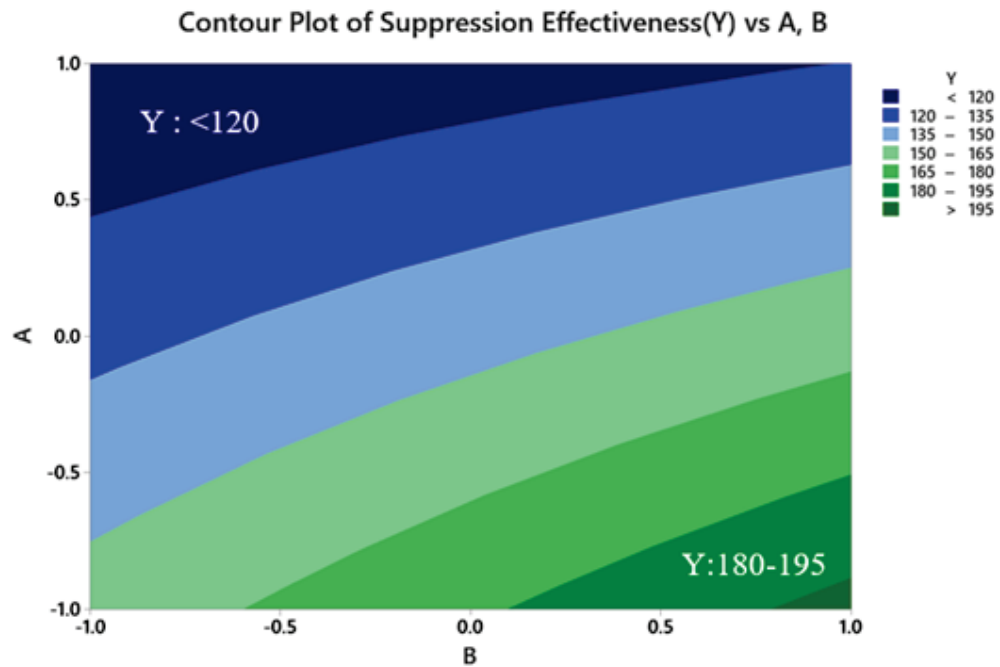

Figure 5.2: Contour plot of Suppression Effectiveness( Y) vs A (Surfactant), B (Initial coal dust concentration).
- (iv). Based on the contour plot given in Figure 5.2, perform an analysis of A\*B interaction on Suppression Effectiveness (Y) and provide your recommendation to optimize the results of Suppression Effectiveness (Y).
*Berdasarkan plot kontur yang diberikan dalam Rajah 5.2, lakukan analisis interaksi A\*B pada Keberkesanan Penindasan (Y) dan berikan cadangan anda untuk mengoptimumkan keputusan Keberkesanan Penindasan (Y).*